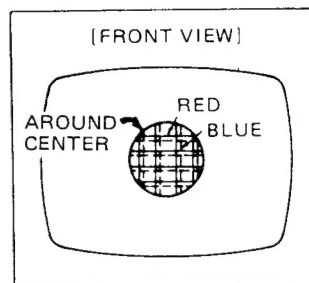

Fig. 5-7
3. Rotate the front pair of tabs as a unit to minimize the separation of the red and blue lines around the center of the screen. To adjust the convergence of red and blue, vary the angle between the tabs. (Fig. 5-7)